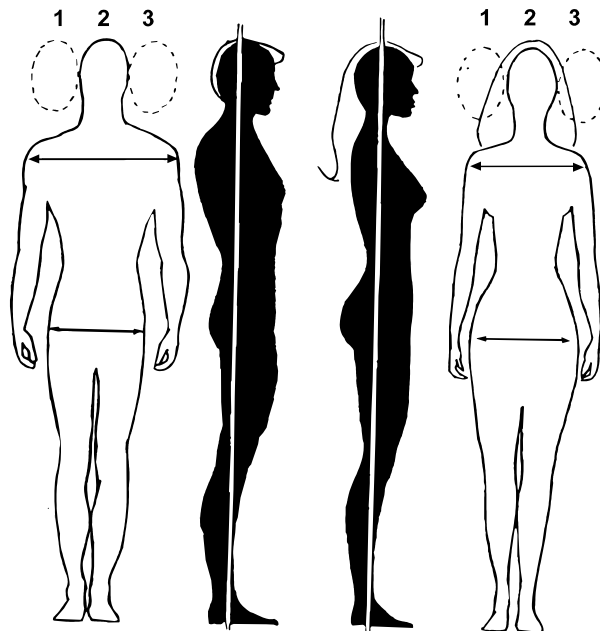

Figure K-2. Male and female figure differences.
e. The structural differences between the male and female are more in the bones and muscle tissue than anywhere else. (See Figure K-2.) The bones of the female are smaller than the bones of the male. The female body appears much smoother and less muscular, although the female has the same muscle structure as the male. This appearance is caused by genetic differences, plus females have a heavier covering of fatty tissue over the entire body.
(1) Figure K-2 shows the differences between the average male and female figures. The male's shoulders are about three heads wide, while the females are only two heads wide.